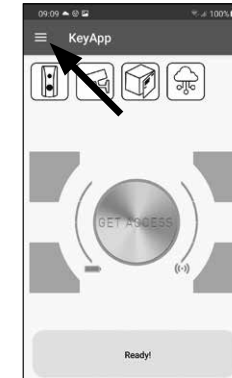

Fig. 63
- 1 Open the main menu (Fig. 63).